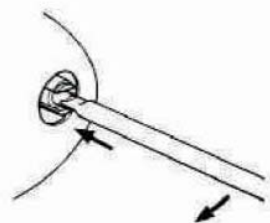

Fig. 4
- a. Remove the emitter from the spring loaded holders, by pushing one end further into its holder and pulling the end that is now free towards you. – see figure 4